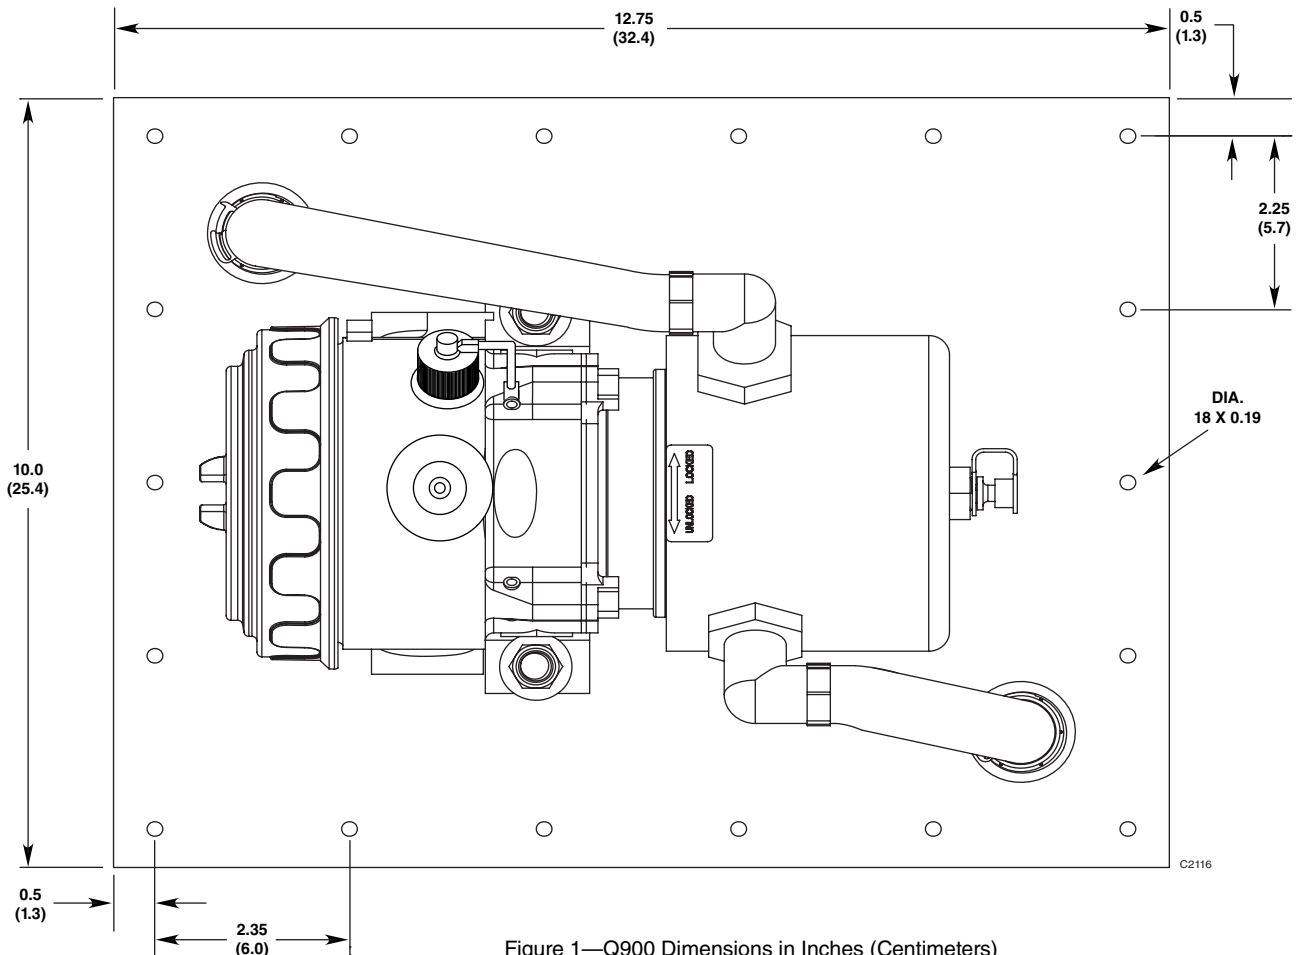

Figure 1—Q900 Dimensions in Inches (Centimeters)
Refer to Figures 1 and 2.
The Model Q900 Duct Mount Assembly mounts directly to a flat duct wall surface. Eighteen (18) mounting holes and two (2) tubing penetrations are required. See Figure 1. Seal gaskets are provided to ensure that duct integrity is maintained. The PIRECL PointWatch Eclipse Gas Detector is affixed on the mounting plate using stainless steel screws and studs that are furnished with the Q900 kit.
- Mark and drill the appropriate mounting and sampling tube holes on the duct wall. Refer to Figure 1 or Addendum number 95-8538 "Mounting Template for Q900 Duct Mount Kit" to determine the size and location of the holes.